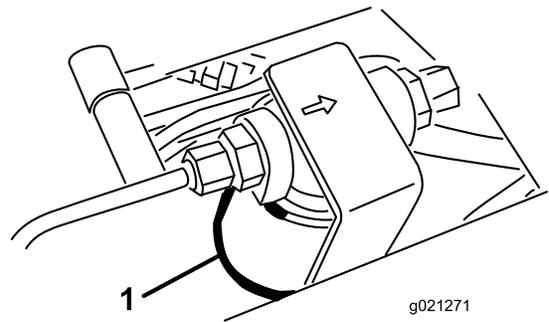
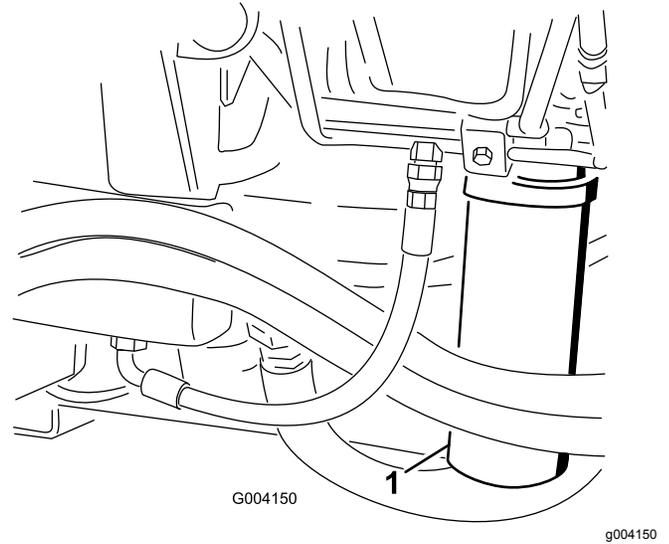

Figure 92
Figure 93
- Clean the area around the filter-mounting area and place a drain pan under the filter (Figure 92) and (Figure 93).